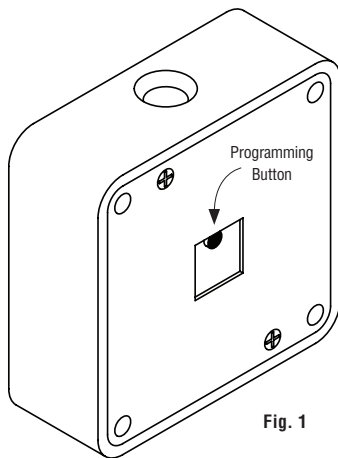

Fig. 1
1. Press the programming button on the back of the lock (Fig. 1).
1. Determine proper location for lock and fasten using provided fasteners (Fig. 1 & 2).
2. As these are RFID devices ensure minimum spacing of multiple locks and external antennas is observed to ensure proper functionality and battery life (Fig. 1).